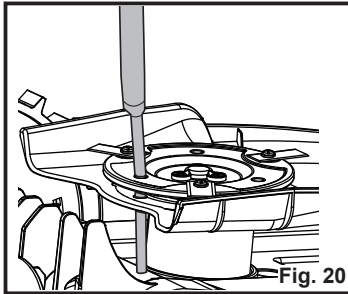

Fig. 20
4. Use a suitable tool (e.g., a screwdriver) to insert into one of three holes in the blade disc to fix it in place (Fig. 20). This ensures the blade disc is not turning when replacing the blades to avoid personal injury.